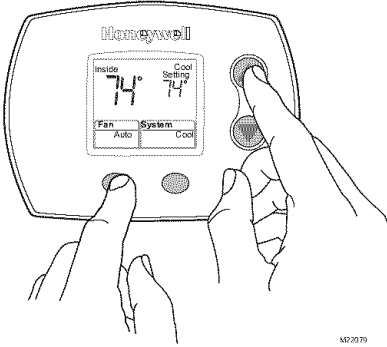

Fig. 16. Enter Installer setup.
1. Enter Installer Setup by pressing and holding the Up and Fan buttons, at the same time, for approximately five seconds, until the screen changes. See Fig. 16.